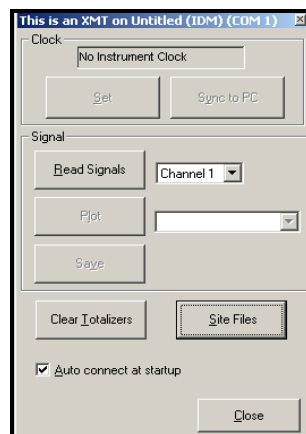

Figure 27: *Properties* Window
3. The *Properties* window appears similar to Figure 27. To clear the XMT868i totalizers, click on the **[Clear Totalizers]** button. The XMT868i totalizers are reset to 0.